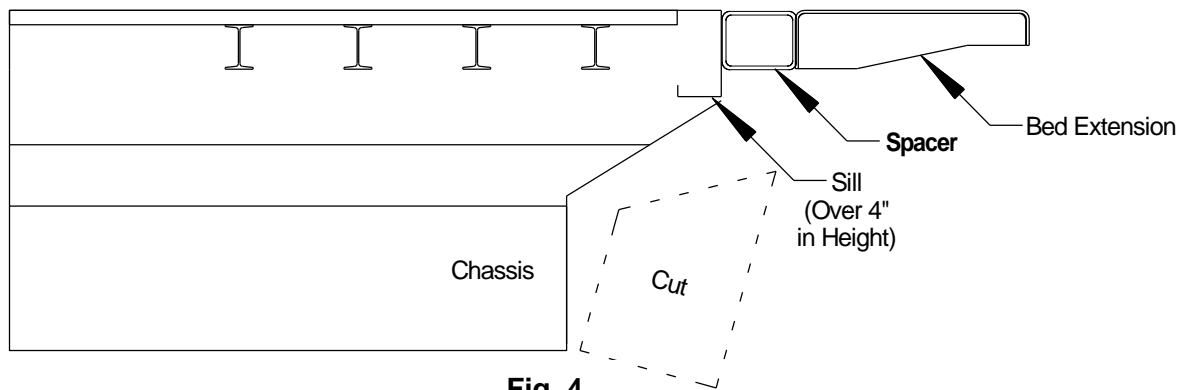

Fig. 4
- If the vehicles sill measures more than 4” in height, add a spacer to the rear of the vehicle, **Fig. 4**. The spacer will shift the bed extension back allowing the platform to clear the bottom of the sill when it is in stored position. Reference cutout dimensions from Step 1 to determine the chassis cutout.